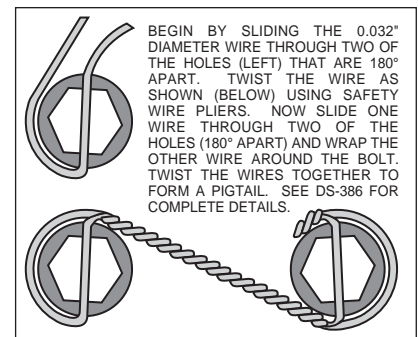

Figure 4. Safety Wire Diagram
- Apply red *Loctite*® 271 to bolt threads (2) before assembly of the caliper bracket (1) to backing plate face of spindle. Position the caliper mounting bracket (1) onto the spindle while positioning spacers (3) between bracket and spindle face. Slip the mounting bolts (2) into the threaded spindle holes, finger tighten. Torque two bolts (2) to 30 ft-lb. **NOTE:** Be sure the heads of the caliper bracket (1) insert nuts are facing outward toward the wheel.
- Install five new wheel studs (4) into the hub (5). Torque to 77 ft-lb. **NOTE:** There are two five lug patterns in the hub (5 x 4.50 and 5 x 4.75). Make sure of the correct hole pattern for the correct wheel application before installing studs into hub.
- Pack the large inner bearing cone (6) with high temperature disc brake bearing grease (available from your local auto parts store) and install into the backside of the hub (5).
- Install the grease seal (7) by pressing into the backside of the hub (5).
- Attach rotor adapter (8) to rotor (9) using six bolts (10). Using an alternating sequence, apply red *Loctite*® 271 to the threads and torque bolts (10) to 25 ft-lb. For an added measure of security, the bolts may be safety wired using standard 0.032 inch diameter stainless steel safety wire as shown in Figure 4. Please refer to Wilwood's data sheet